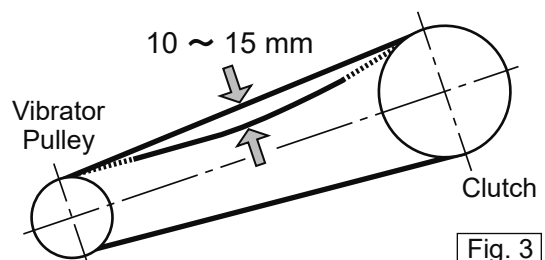

Fig. 3
2. Check the V-belt tension. The V-belt tension is proper if the V-belt bends 10 to 15 mm when depressed with finger at midway between the clutch and vibrator pulley. (Fig. 3)